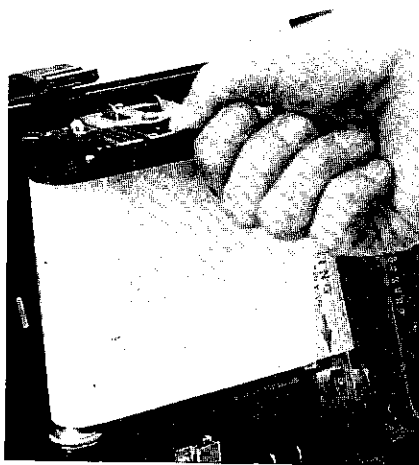

FIGURE 26
4. Pull out and down on the tab at the top center of the platen assembly to expose the paper spools. (See Figure 26).